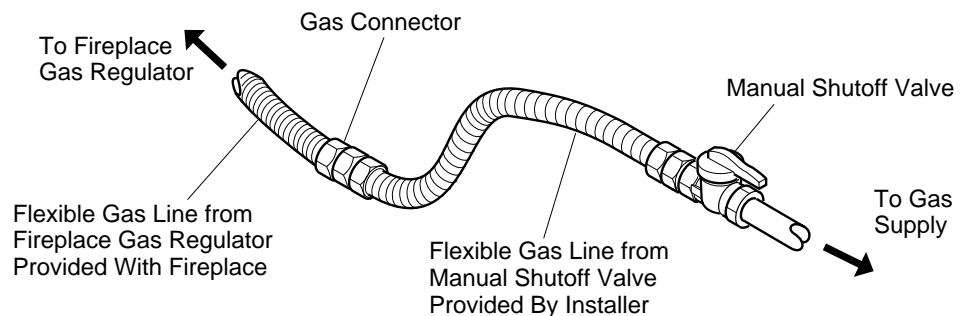

Figure 24 - Attaching Flexible Gas Lines Together
NOTICE: Most building codes do not permit concealed gas connections. A flexible gas line is provided to allow accessibility from the fireplace (see Figure 24). The flexible gas supply line connection to the manual shutoff valve should be accessible.
4. Apply pipe joint sealant lightly to male threads of gas connector attached to flexible gas line (see Figure 24). Connect flexible gas line to flexible gas line attached to gas regulator of fireplace (see Figure 24).